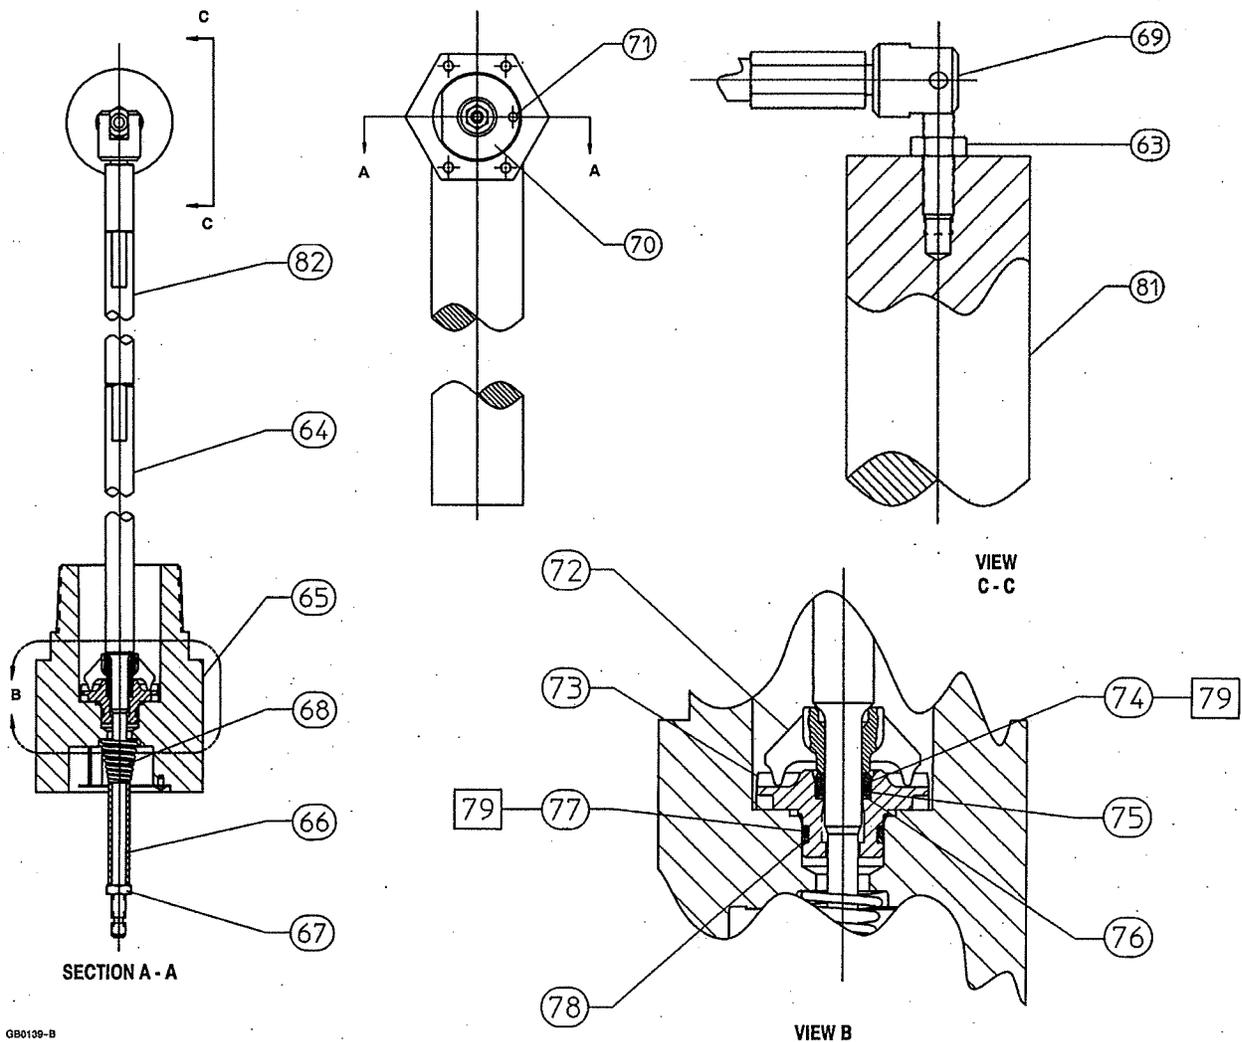

Figure 7. Sensor
Refer to figure 7 for part locations.
1. Check the supply pressure gauge (key 10) to be certain that the supply pressure is at the desired value. Adjust the supply pressure as required.
2. Adjust the displacer rod to the horizontal position with the spring adjustment (key 4).
3. Bounce the end of the displacer rod (key 64, figure 7) up and down to check that the sensor is operating freely.
2. Slide the hook end of the zero spring (key 5, figure 8) over and off the controller end of the displacer rod (key 64, figure 7).
Observe the warning given at the start of the "Maintenance" section. Refer to figure 7 for key number locations unless otherwise indicated.
Improper assembly of the O-rings, anti-extrusion ring, and backup ring could result in O-ring extrusion and permit leakage of process fluids. To avoid personal injury or property damage from leaking process fluid, be sure the O-rings, anti-extrusion ring and backup ring are assembled in the order shown in figure 7.
1. Place the pivot body (key 72) on the displacer rod (key 64) so that it is positioned as shown in figure 7.
2. Slide the O-ring (key 74), anti-extrusion ring (key 75) and retaining ring (key 76) onto the displacer rod assembly (key 64). Be sure the O-ring, anti-extrusion ring, and retaining ring are in the order shown in figure 7. Slide the pivot base onto the displacer rod so that the points of the pivot body (key 72) will engage the slots in the pivot base (key 73).
3. Install the O-ring (key 77) and backup ring (key 78) into the groove on the pivot base (key 73). Be sure the backup ring is on the downstream pressure side of the O-ring as shown in figure 7.
4. Insert the displacer rod (key 64) into the vessel side of the sensor connection (key 65).